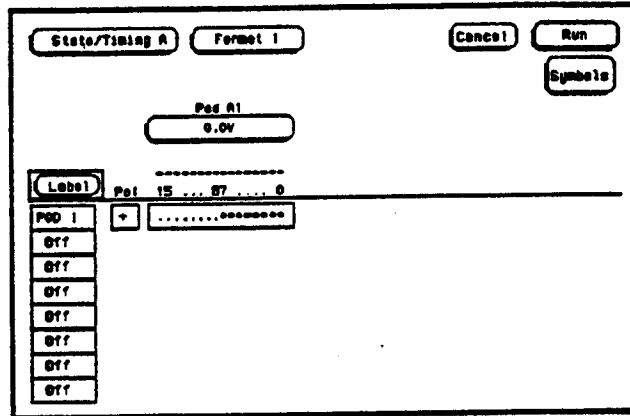

Figure 3-40. Format Screen
3. Configure the Format screen for User Defined pod threshold of 0.0 V for the pod under test and assign the appropriate eight bits in the Bit Assignment field as shown in figure 3-40. Refer to steps a and b if unfamiliar with menus.